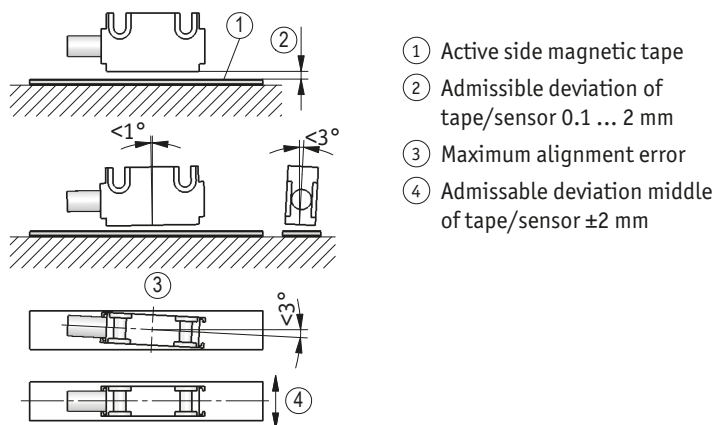
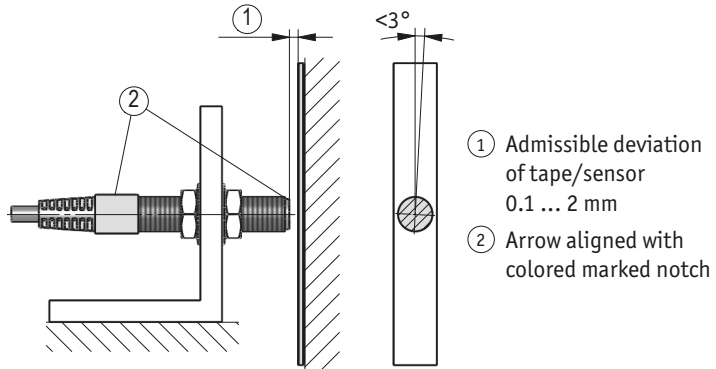

Fig. 7: Assemblage sensor / magnetic tape, gap measure, tolerances
Fig. 8: Assemblage sensor / magnetic tape, gap measure, tolerances
- The distance tolerances were not observed over the whole measuring length (see Fig. 7, Fig. 8).
- The magnetic sensor has been mounted with the active side turned away from the band (see Fig. 7, Fig. 8).
- Magnetic sensor has not been aligned according to Fig. 7, Fig. 8.